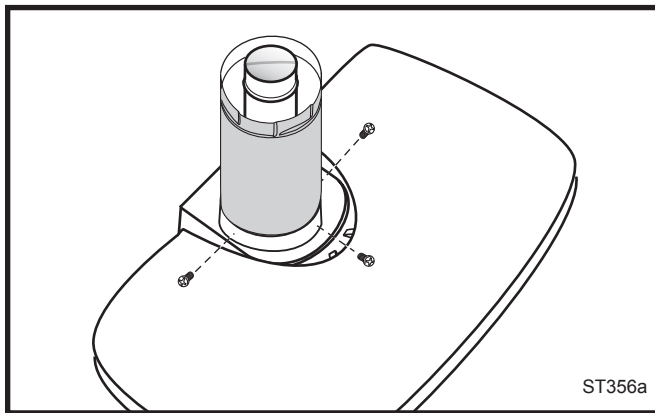

Fig. 22 Simpson Dura-Vent - install outer adapter pipe.
2. Install the Outer Adapter Pipe. Apply a 1/4" bead of cement around the outside surface, about one inch from the crimped end. (Fig. 22) Orient the vertical seam to the rear, and insert the crimped end of the outer pipe into the flue collar. Fasten with three sheet metal screws provided.